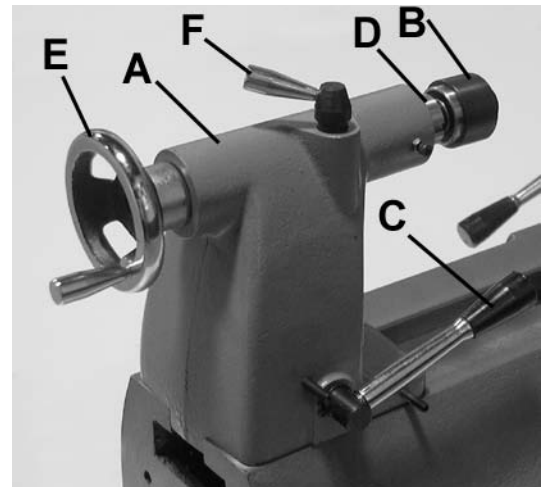

FIGURE 10
The tailstock (A) Fig.10 is moved along the lathe bedway to support the other end of your workpiece using a live center (B). To move the tailstock, lift locking lever (C) and slide tailstock. Lower locking lever to lock in place. The tailstock quill (D) moves in and out by turning handwheel (E) and is locked into place using lock handle (F).